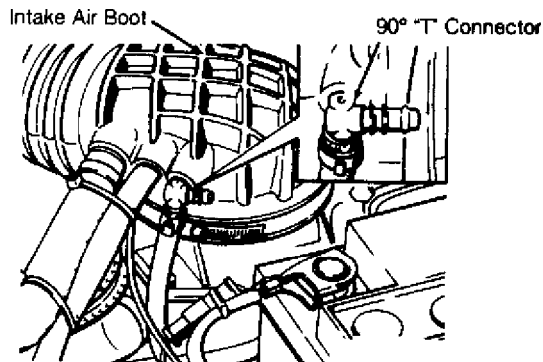

Fig. 5: Positioning Canister Hose For Oxygen Sensor Test
2) Attach Multimeter (US 1119) to adapter and set meter on DCA 200m scale. Remove PCV hose and vent to atmosphere. Remove 90 degree "T" connector and insert port with small vent hole into intake air boot. See Fig. 5.